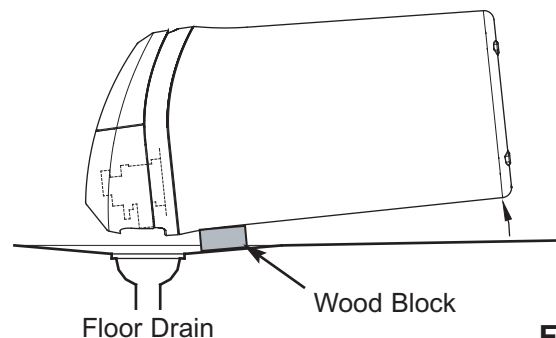

FIG. 45
6. Lay a piece of 5 cm thick board near the floor drain (See Figure 45).